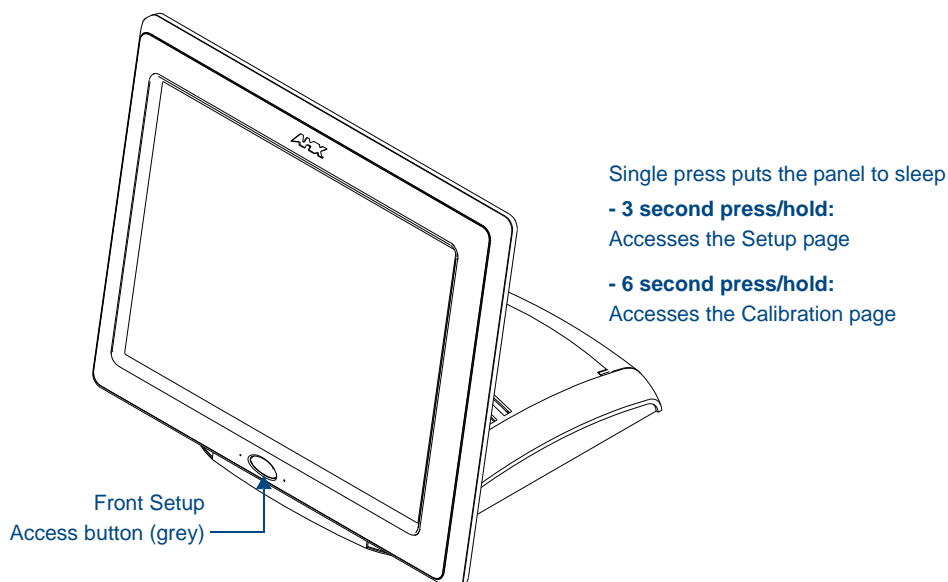
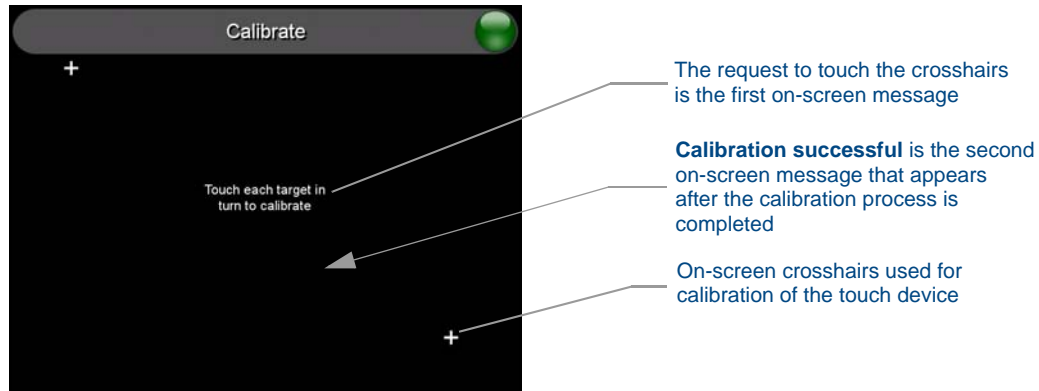

FIG. 47 Location of grey Front Setup Access button
FIG. 48 Touch Panel Calibration Screens
1. Press and hold the grey Front Setup Access button (FIG. 47) for **6 seconds** (passing-over the Setup page) to access the Calibration setup page (FIG. 48). *The panel should first be calibrated properly.*
Press the crosshairs (on the Calibration page) to set the calibration points on the LCD (FIG. 48).